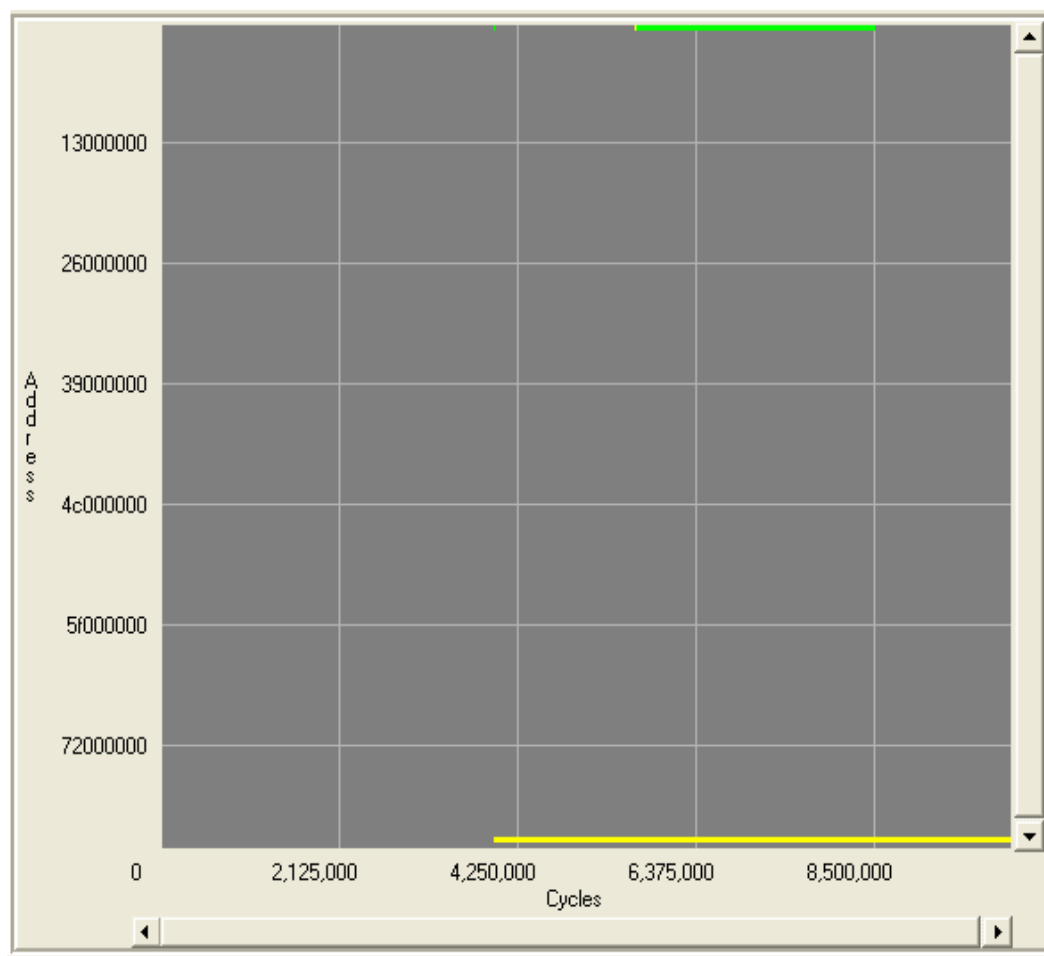

Figure 13. Overview of Data Cache Accesses
3. Click the Full Zoom button  to zoom out as far as possible on the address data plotted on the vertical axis and cycle data plotted on the horizontal axis. This allows you to view all data cache accesses and provides an overview of memory access patterns so that you can easily point out the hot spots where most cache misses occur. It should resemble the image shown in Figure 13. (Actual image may vary depending on screen resolution.)